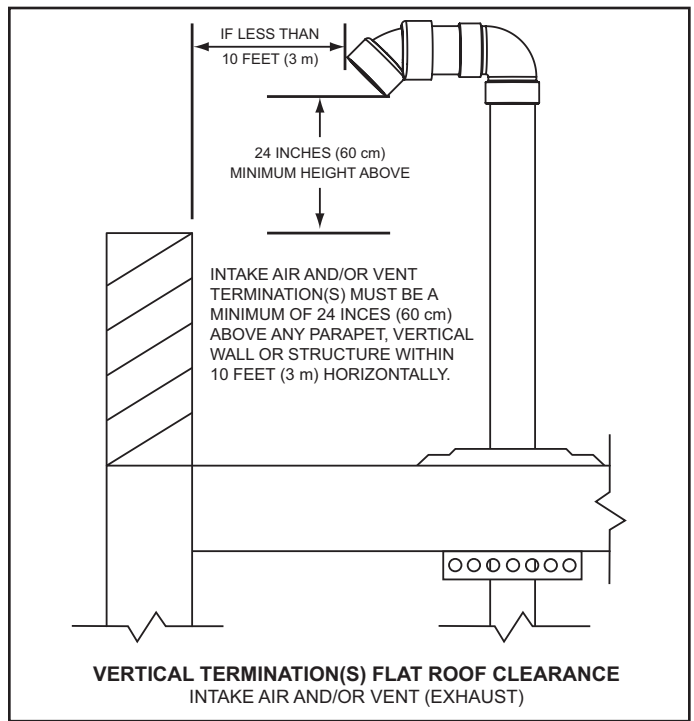
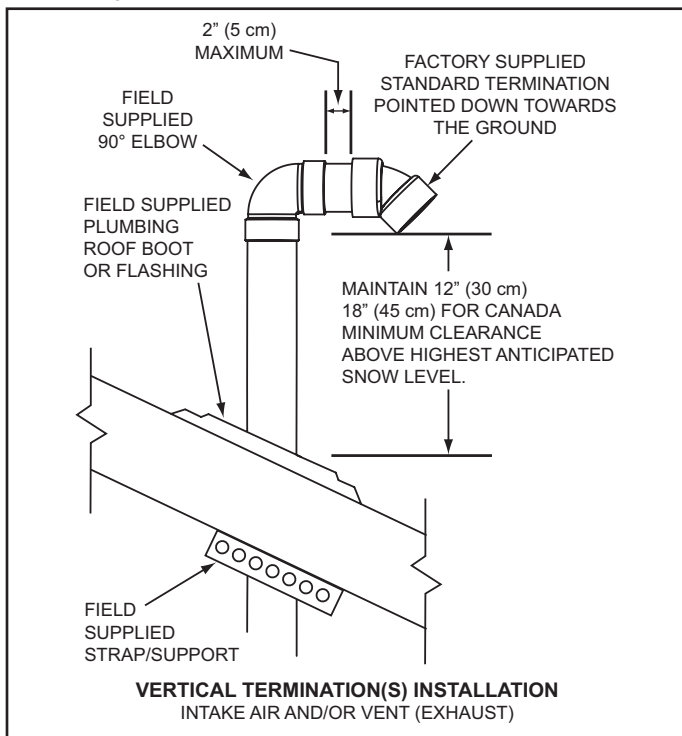
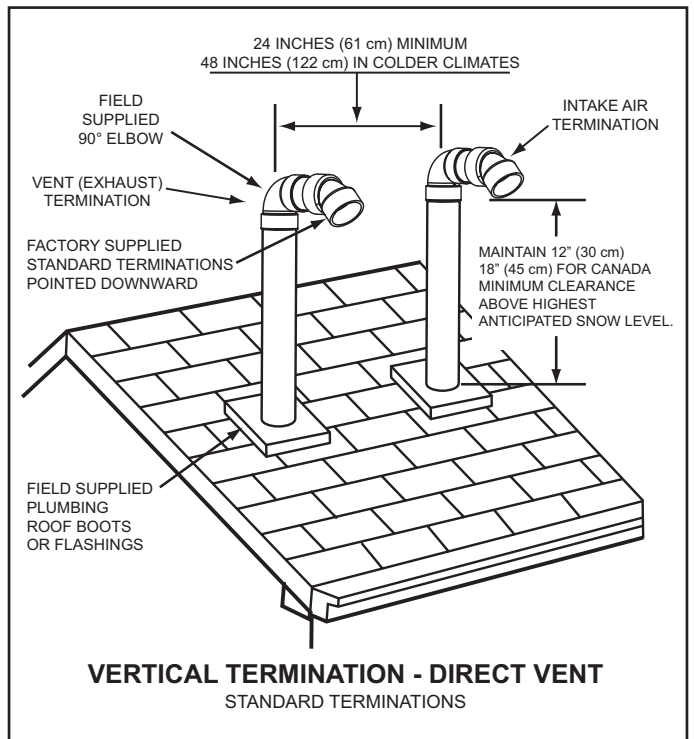

Figure 20
Figure 19
Figure 21
2. If installing only the vent (exhaust) piping in a Power Vent configuration vertically through the roof; ensure that all exterior vertical clearance requirements shown in Figure 19 and Figure 20 on page 25 are being maintained. These clearances and those cited by local and national codes must be maintained.
NOTE: On flat roof installations the vent termination must be a minimum of 24 inches (60 cm) above any parapet, vertical wall or structure within 10 feet (3 m) horizontally. See Figure 20 on page 25.
3. If installing both intake air and vent piping in a Direct Vent configuration vertically through the roof; ensure that all exterior vertical clearance requirements shown in Figure 20 and Figure 21 on page 25 are being maintained. These clearances and those cited by local and national codes must be maintained.
NOTE: On flat roof installations the intake air and the vent terminations must be a minimum of 24 inches (60 cm) above any parapet, vertical wall or structure within 10 feet (3 m) horizontally. See Figure 20 on page 25.
The vent termination must be oriented facing downward as shown in Figure 19 and Figure 20 on page 25.
The bottom edge of the vent termination must be a minimum of 12 inches (30 cm), 18 inches (45 cm) in Canada, above the average or expected snow level as shown in Figure 19 on page 25.
The intake air and vent pipes must penetrate the same side of the roof as shown in Figure 21 on page 25.
The intake air and vent terminations must be oriented facing downward and in the same direction as shown in Figure 21 on page 25.
separation of 24" (61 cm) measured on center line as shown in Figure 21 on page 25. In colder climates this separation should be increased to at least 48 inches (122 cm).
The bottom edge of the intake air and vent terminations must be a minimum of 12 inches (30 cm), 18 inches (45 cm) in Canada, above the average or expected snow level as shown in Figure 19 and Figure 21 on page 25.
The distance between the closest vent and intake air terminations must be a minimum of 24 inches (61 cm) as shown in Figure 21. In colder climates this separation should be increased to at least 48 inches (122 cm).
- Suspend the pipe(s) through center of hole using field supplied metal strapping or equivalent support materials as shown in Figure 19.
- Slide a roof boot or equivalent flashing over the pipe and secure roof boot or equivalent flashing to roof (see Figure 19) and seal around the flashing.
- Install the factory supplied intake air and/or vent termination(s) using field supplied pipe and one field supplied 90° elbow as shown in Figure 19. The short section of pipe that connects between the field supplied 90° elbow and the factory supplied termination must not be excessive in length. The exposed portion of this pipe shall be no more than 2 inches (5 cm), see Figure 19.